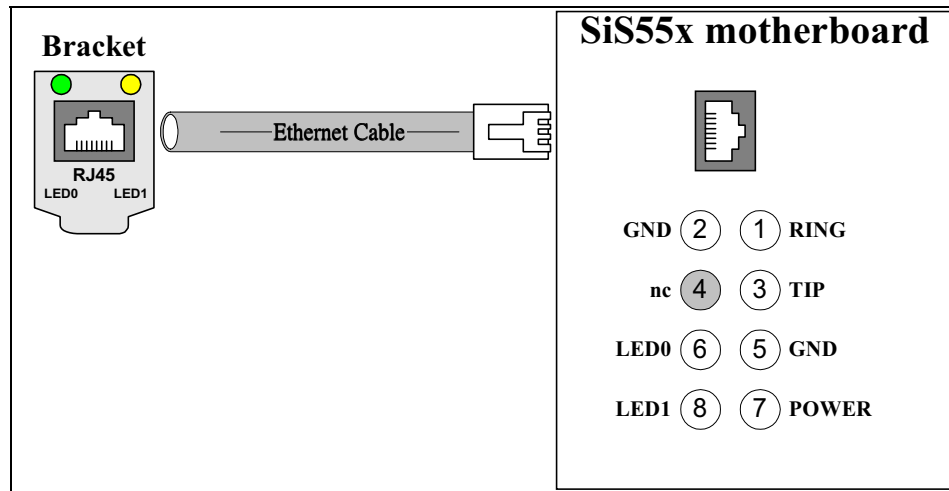

Figure 41. Interconnection between Motherboard and RJ45 Connector
- For customer using a bracket instead of the back panel for one RJ45 plus two RJ11, the recommended interconnection between Motherboard and the bracket is shown in Figure 41.